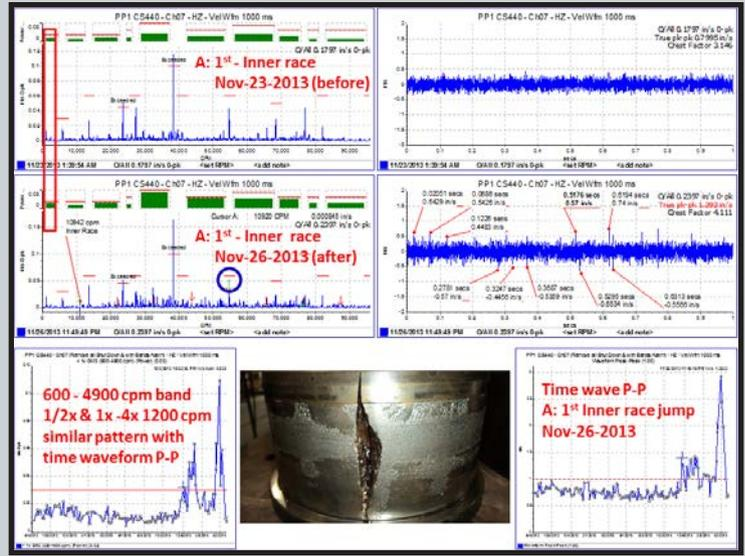
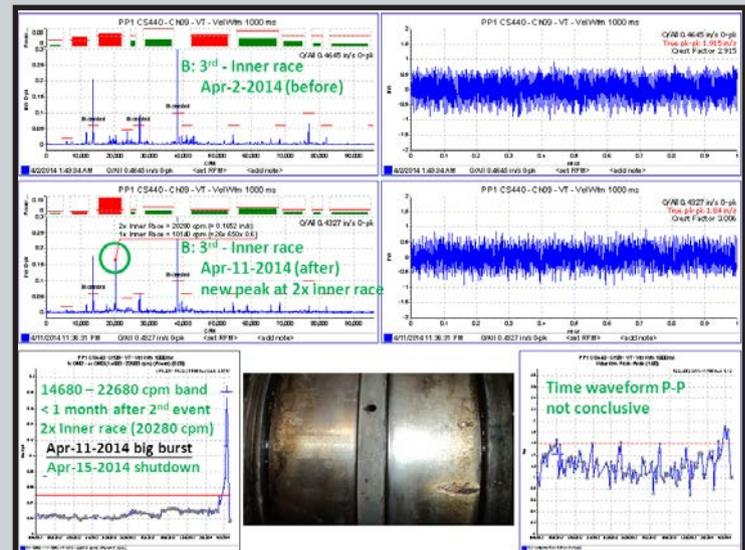

Figure 5
Figure 7
Figures 5 through Figure 7 illustrates comparison before and after each event with its associated time domain on the right and frequency domain on the left. 96000 cpm is sliced into ten (10x) bands with 1600 lines and 60 cpm resolution. Those bands are categorized as gear mesh and non-gear mesh, with non-gear mesh bands inserted among gear mesh without a gap. Only the most representative band trending is selected (left lower). All related information is summarized in Table 1.
- For the first event (bearing A inner race), 600 – 4900 cpm band (Figure 5, lower left) simulates time waveform trending well (Figure 5, lower right). Both 1/2x and 1x 1200 cpm spikes in the time domain (right middle) and 1/2x and 1x 1200 cpm sidebands in the frequency domain (with inner race 10942 cpm at infant) are conspicuous and complement each other.
To identify developing bearing defects from gear mesh is tough. Referring to Table 2 (bottom and blue filled), 5x inner race (54710 cpm) is 10 cpm from 4x GM2 (54720 cpm), which is also blue circled in Figure 5 spectrum. Coincidentally, 7x inner race (76594 cpm) is less than 4x resolution lines from 2x GM1 (76800 cpm) and both are marked in yellow.